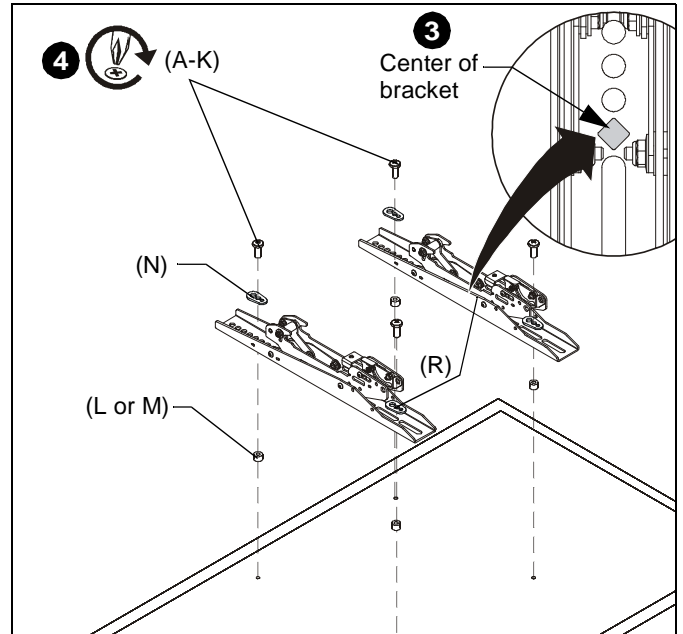

Figure 20
- Align the center of the interface bracket (R) with center of screen. (See Figure 20)
- Select correct screws, spacers (if necessary) and universal washers from the hardware bag (A-N) and attach brackets (R) to back of screen. (See Figure 20)